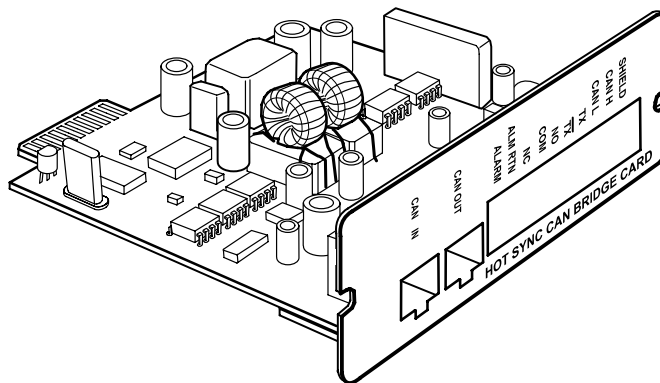

Figure 33. Powerware Hot Sync CAN Bridge Card
4. Unpack the Powerware Hot Sync CAN Bridge Card and verify that the card was not damaged during shipment (see Figure 33).